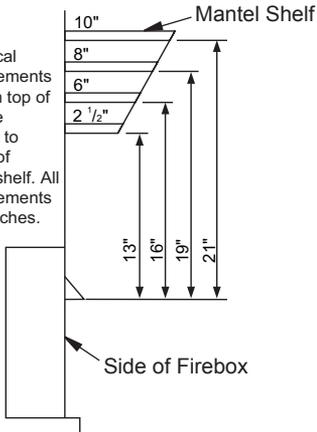

Figure 10 - Minimum Mantel Clearances for Built-In Installation
C. For mantel clearances, see Figure 10 on page 13.
Built-in installation of this fireplace involves installing fireplace into a framed-in enclosure. This makes the front of fireplace flush with wall. An optional trim kit accessory is available (see *Accessories*, page 40). Trim will extend past sides of fireplace approximately 1/2". This will cover the rough edges of the wall opening. If installing a built-in mantel above the fireplace, you must follow the clearances shown in Figure 10, page 13. Follow the instructions below to install the fireplace in this manner.
NOTICE: If your installation does not meet the minimum clearances shown in Figure 10, page 13, you must do one of the following: